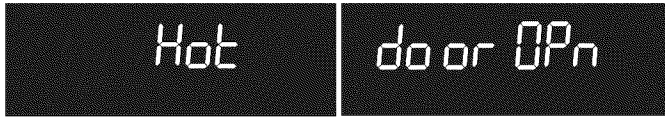

Figure 39: Hot oven door locked (L) door open message (R).
1. CLn message will turn off and Hot will appear in display window (See Figure 39).
2. If Self Clean has heated the oven to a high temperature, allow enough time for the oven to cool and the door Opn message to appear (See Figure 39). When this message turns off, the oven door may be opened.